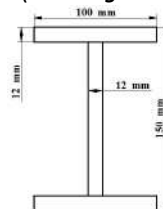

Figure 30
11. At a given position in a beam of uniform I-section is subjected to a bending moment of 100kN-m. Plot the variation of bending stress across the section (refer **Figure 30**).